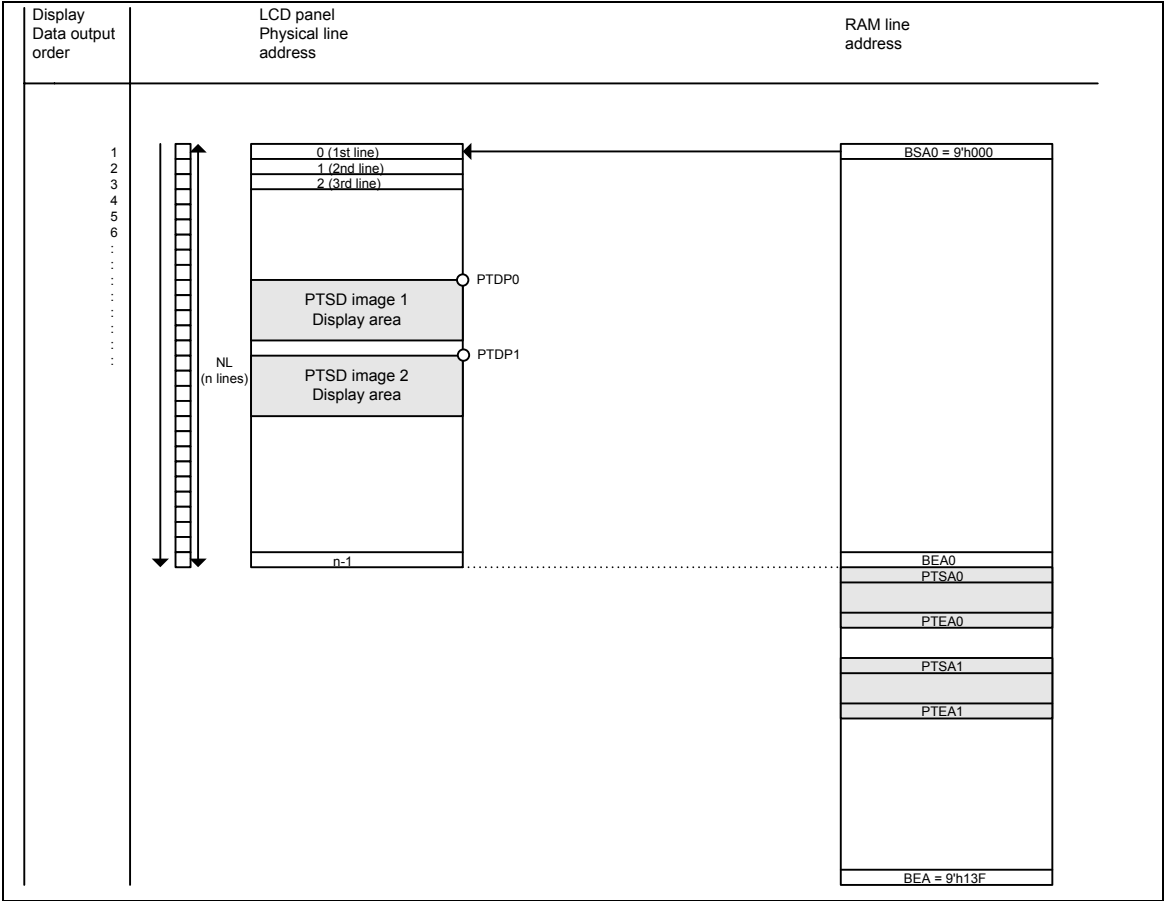

Figure 43 Display RAM Address and display position
6. When switching between the internal operation mode and the external display interface operation, follow the sequences in Figure 43 RGB and Internal Clock Operation Mode switching sequences.